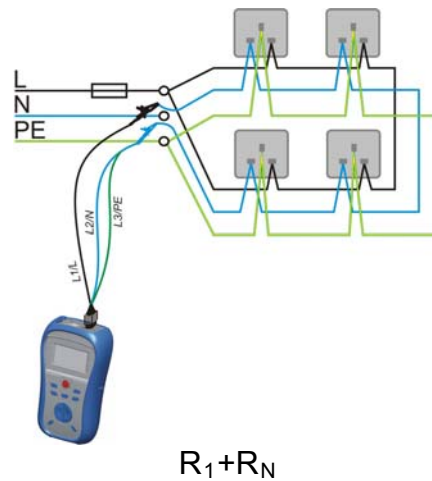

Figure 5.12: Connections for testing the r_1 , r_N , r_2 and R_1+R_N sections of the wiring in ring circuits
- ❑ **Connect** the test leads to the appropriate PE wiring (see figures 5.12 and 5.13).